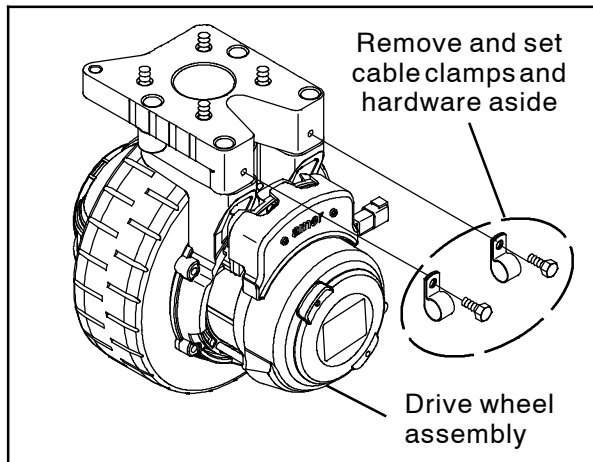

FIG. 6
1. Remove the cable clamps from the drive wheel assembly. Set cable clamps and hardware aside. (Fig. 6)
14. Insert the main wire harness into the cable clamp and install the cable clamps onto the drive wheel assembly (1). (Fig. 6)